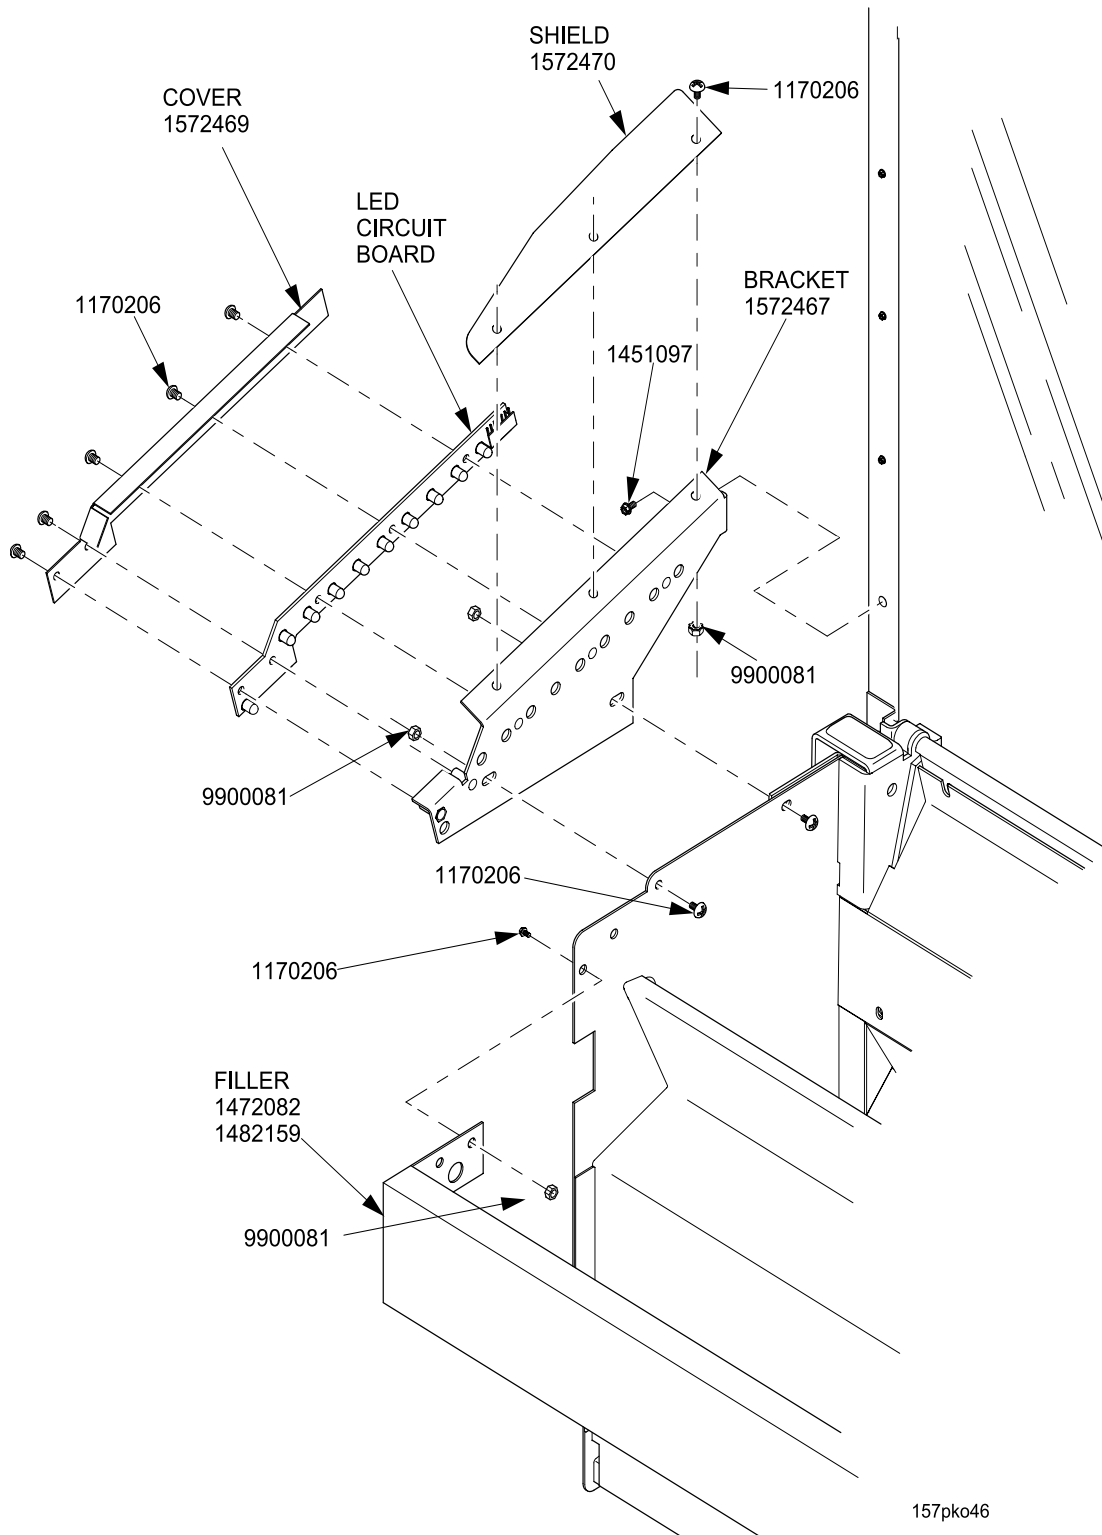
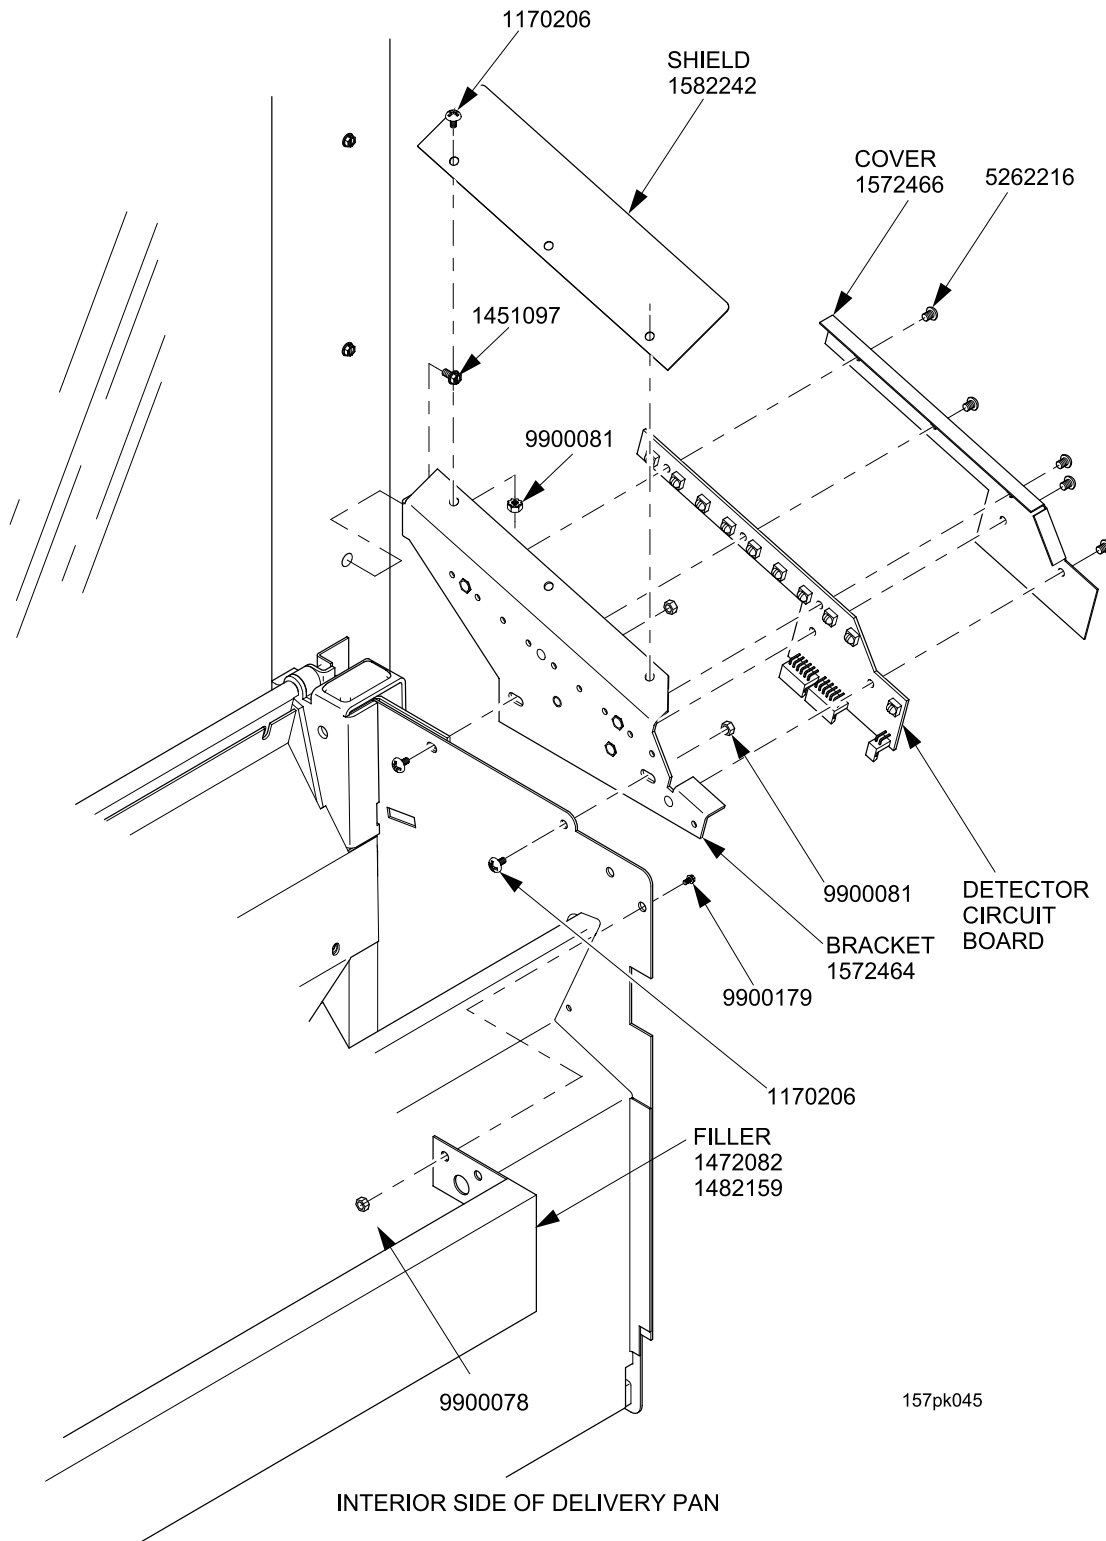

Figure 2
Figure 3
4. Attach the front of each sensor bracket and the upper deflector to the door with part # 5262216 and part# 9900081as shown below. (See Figures 3 & 4).
5. Use existing filler and replace hardware as shown in figures 2 and 3 for units without a gum and mint unit. You need to use part # 1170206 and part #9900081 to attach the left side of the filler plate and part #9900078 and part #9900179 to attach the right side of the filler plate.
6. **Plug the machine back into the electrical service (this grounds the machine for the maximum protection against electrostatic discharge).** Wearing electrostatic discharge protection, attach the left and right sensors assemblies to the left and right brackets with the (10) #6-32 screws provided (See Figure 2 on page 4) and (See Figure 3 on page 5).